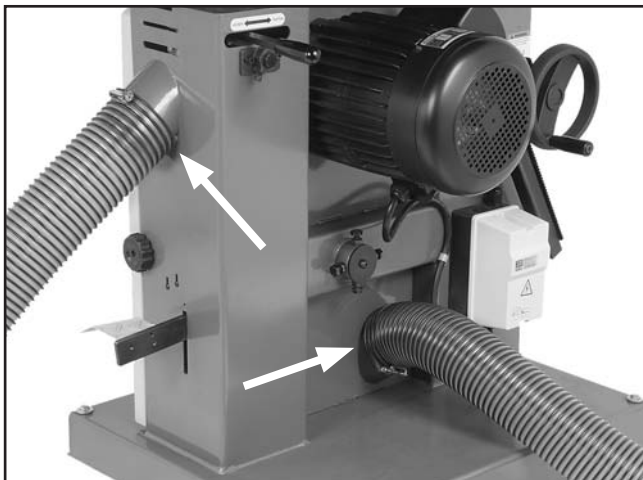

Figure 21. Dust hoses attached.
1. Fit a 4" dust hose over each dust port, as shown in **Figure 21**, then secure them in place with hose clamps.